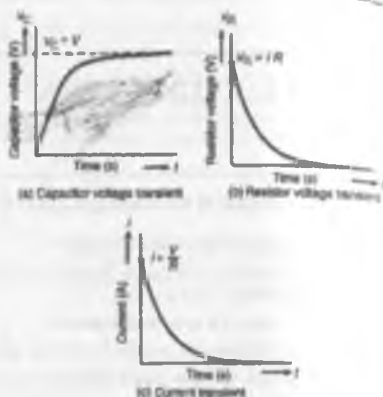

Figure 18.2
- (c) A short time later at time t_1 seconds after closing S , the capacitor is partly charged to, say, q_1 coulombs because current has been flowing. The voltage v_{C1} is now (q_1/C) volts. If the current flowing is i_1 amperes, then the voltage drop across R has fallen to $i_1 R$ volts. Thus, Equation (2) is now $V = (q_1/C) + i_1 R$.
- (e) Ultimately, a few seconds after closing S , (i.e. at the final or steady state condition), the capacitor is fully charged to, say, Q coulombs, current no longer flows, i.e. $i = 0$, and hence $v_R = iR = 0$. It follows from Equation (1) that $v_C = V$.
- (f) Curves showing the changes in v_C , v_R and i with time are shown in Fig. 18.2.
- (a) If a constant d.c. voltage is applied to a series connected C-R circuit, a transient curve of capacitor voltage v_C is as shown in Fig. 18.2(a).
The transient curves shown in Fig. 18.2 have mathematical equations, obtained by solving the differential equations representing the circuit. The equations of the curves are: